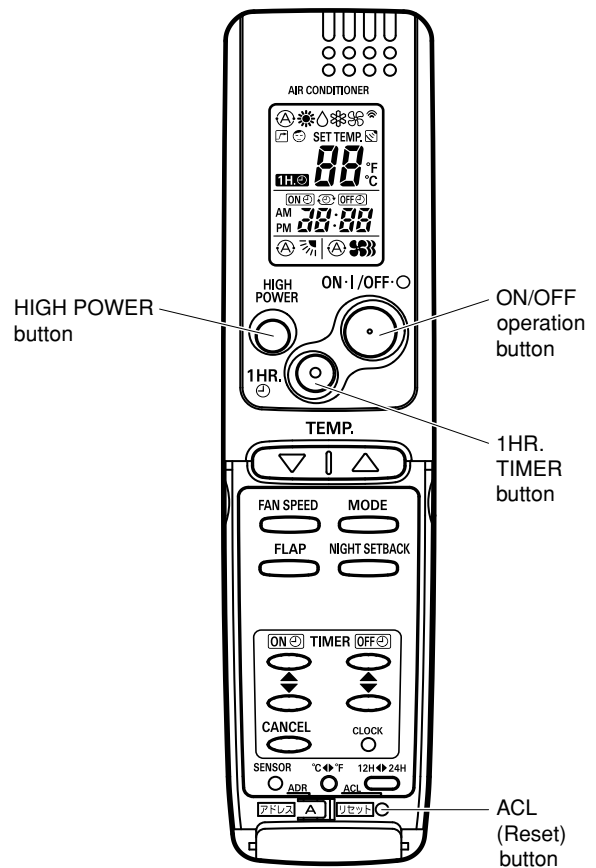

Fig. 33
- (1) Set the remote controller in Test Run mode. (Fig. 33)
- (2) Start Cooling mode test run by pressing the ON/OFF operation button of the remote controller. (Fig. 33)
- (3) Press the ON/OFF operation button of the remote controller again to stop the test run. (Fig. 33)
- (4) Finally press the ACL (Reset) button of the remote controller to release it from Test Run mode to return to normal mode. (Fig. 33)